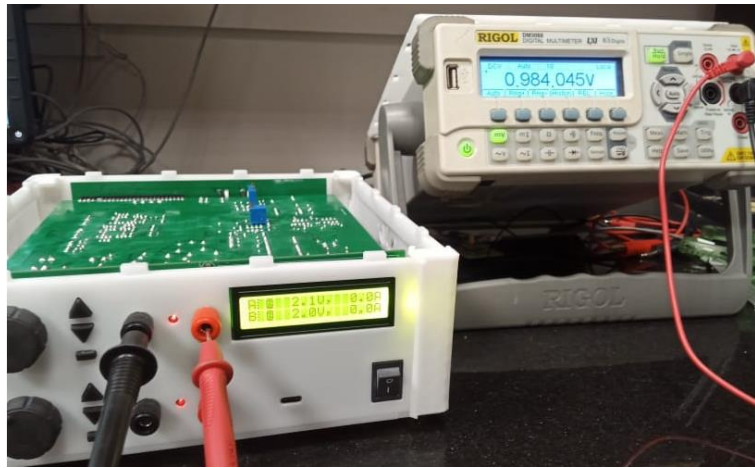

Figure 8: Connection of Rigol Digital Multimeter 3068 (set at DC voltage mode) to Channel A of PhysWatt.
3. Use Rigol DM3068 Digital Multimeter to measure the voltage across Channel A of PhysWatt, as demonstrated in **Figure 8**.